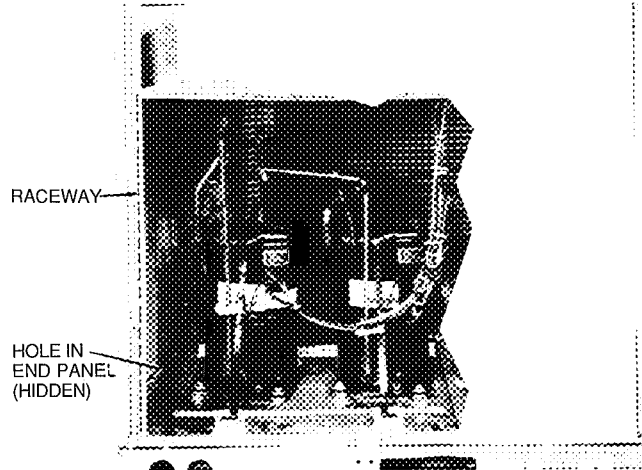

Fig. 11 – Field Control Wiring Raceway
3. Feed wire through the raceway built into the corner post to the 24-v barrier located on the left side of the control box. See Fig. 11. The raceway provides the UL-required (Underwriters' Laboratories) clearance between the high- and low-voltage wiring.